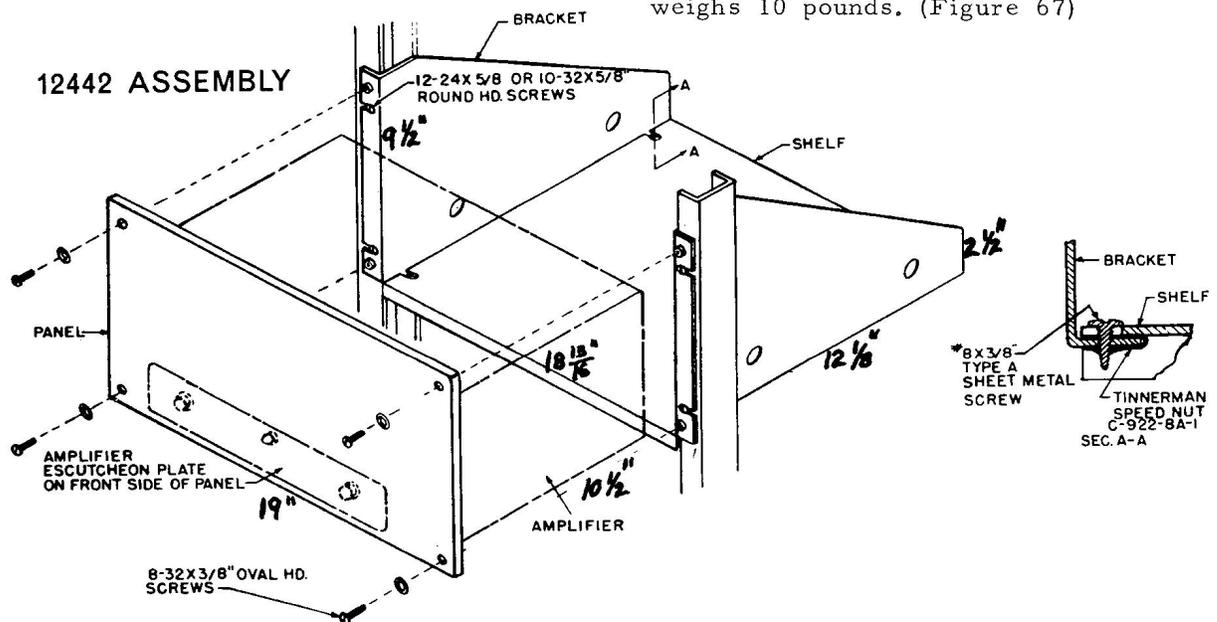

Figure 67 - 12442 Mounting Assembly
4.13 The 12442 mounting assembly is available to adapt the 1570A amplifier for rack mounting. It measures 18-13/16" wide, 9-1/2" high, 12-1/8" deep, and consists of a mounting shelf and a front panel and weighs 10 pounds. (Figure 67)